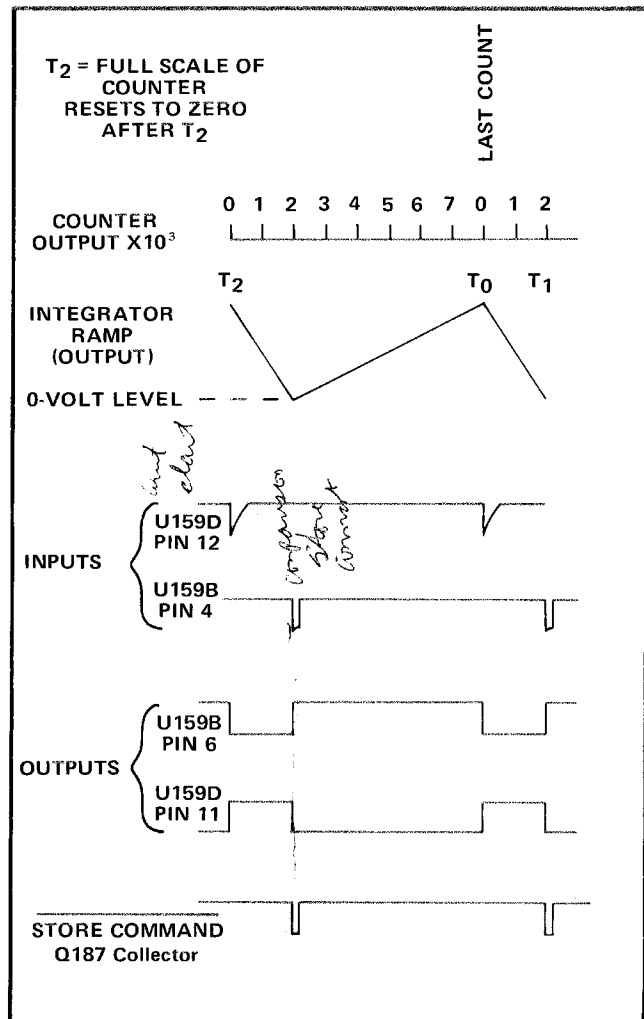

Fig. 3-2. Analog-to-Pulse-Width Converter circuit waveforms showing their relationship to the Counter output.
Fig. 3-2 shows the time relationship of the Counter output and the Analog-to-Pulse-Width Converter circuits. The Integrator ramp waveform represents the Integrator output for a full-scale measurement (e.g., 2,000 V). Regardless of the measurement input, the duration of the ramp remains the same; the positive portion of the ramp always ends at  $T_0$ , corresponding to the Last Count from the Counter.
the ramp and the output of the Zero-crossing Comparator is shown in Fig. 3-2; the input to U159B at pin 4 is the output of the Zero-Crossing Comparator.
**Zero-Crossing Flip-Flop.** The Zero-Crossing Flip-Flop is an RS flip-flop made up of U159B and D. This circuit has two inputs and two complementary outputs, all of which are shown in Fig. 3-2.
The resulting signal at the collector of Q187 is a negative pulse, STORE COMMAND, coincident with the Zero-Crossing input to U159D (see Fig. 3-2). This signal is connected to the Store Command Delay circuit and to the Polarity Indicator circuit.
$I_r$  is sunk from the drain of Q149 to the Floating Power Supply common through CR165, VR164, and Q163 when pin 6-U159B is HI. When the Last Count pulse sets pin 6-U159B to LO, Q163 is turned off to reverse bias CR165.  $I_r$  is now switched through CR150 to the Integrator current-summing point to end the positive portion of the ramp (see Fig. 3-2).